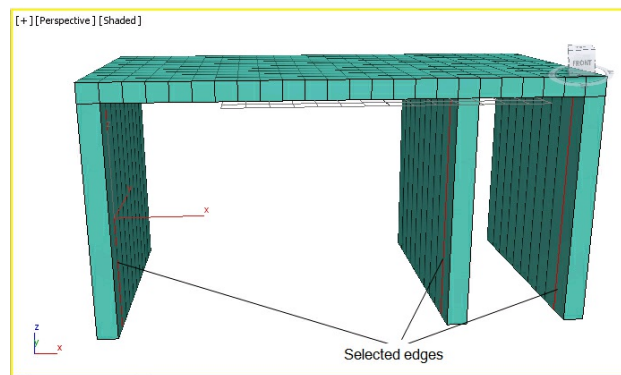

Figure 9-65 Selected edges of computer table
1. Switch from the Bottom viewport to the Top viewport. Next, select the **Edge** sub-object level. Activate the Perspective viewport and then select an edge from each extruded part, as shown in Figure 9-65.